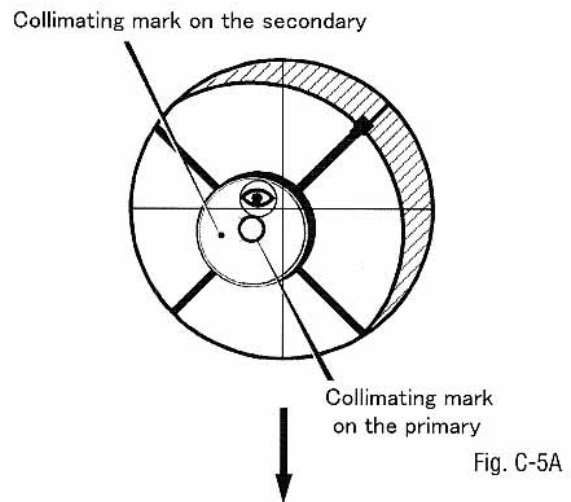

Fig. C-5A
- ① Turn the corsshair of the collimating eyepiece so that one set of lines is parallel to the ground which would make the second set of lines perpendicular. Make certain that the telescope is pointing at the white card or the window which a translucent curtain. In the event that the optical is rotated as shown in the Fig. C-5A.